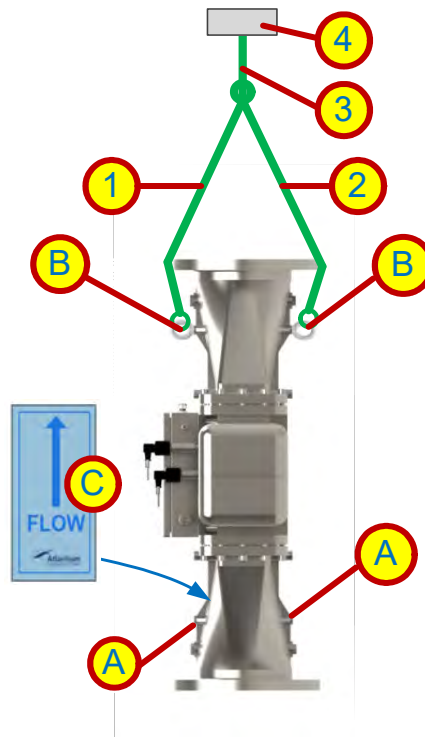

Figure 5-12: Configuration for lifting
- Note that the UV Unit is to be installed vertically (see **Figure 5-12**). Note the sticker **[C]** on lower part of Unit, indicating the direction of the water flow. Use this information to decide at which angle to lift the Unit for transport. This is to help you to prepare for placing the Unit at the location.